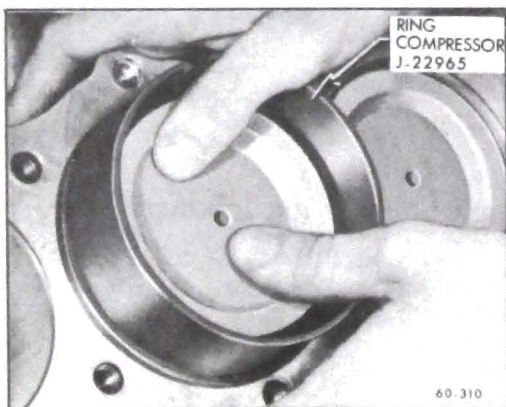

Figure 60-240 Installing Piston with Ring Compressor Installed (350 Shown)
12. Make sure the gap in the oil ring rails is "up" toward center of engine and the gaps of the compression rings are positioned as shown in Figure 60-240.
13. Lubricate the piston and rings and install in bore by compressing the rings either with a "wrap around" compressor or a split ring type such as shown in Figure 60-240.